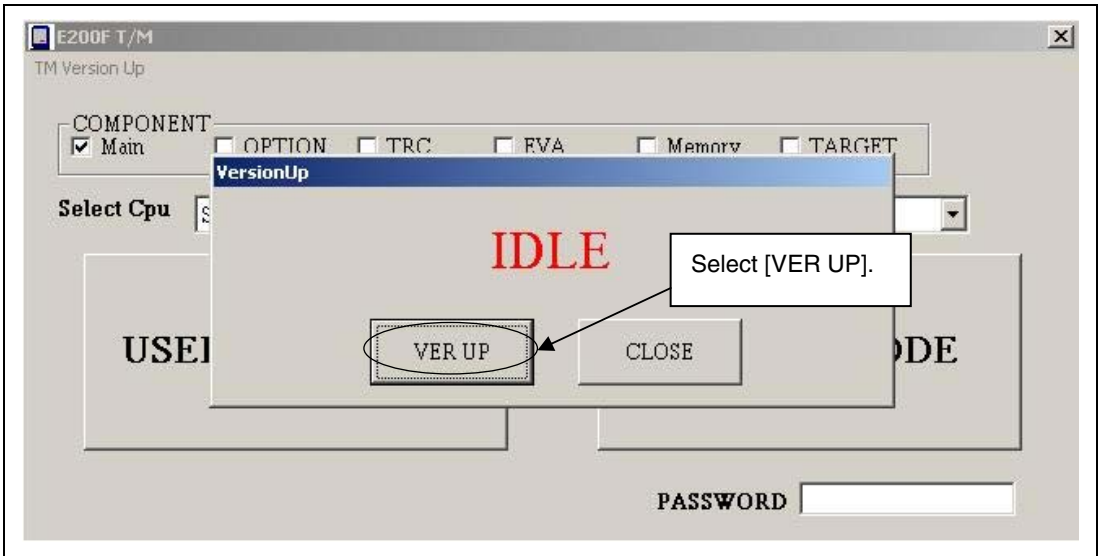

Figure 3.12 Screen after Selecting [VER UP]
6. When [TM Version Up] is started, the screen shown in figure 3.12 is displayed.